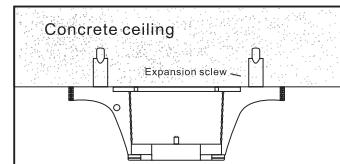

Figure 2
1. Concrete ceiling: Drill two holes with an appropriate depth by a drilling bit with diameter 8mm, and insert 1 piece of expansion screw to each hole, then fix the mounting bracket into the expansion screws, and tighten it with the nuts of expansion screws. (Fig 2)